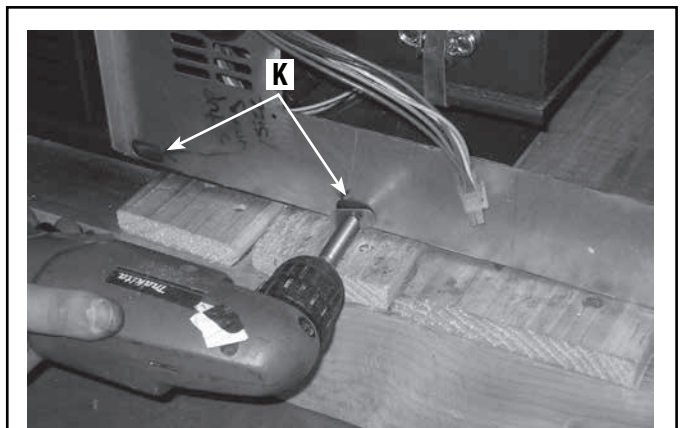

Figure 63
10. Final step: Install the 4 door washers (K), using 4 of the sheet metal screws provided, insert two on each lower side of your ZC box (shown in the **Figure 63**). You are now ready to install your PI40GL pellet insert. **Follow all vent clearances stated in your Installation and Operation Manual and the vent manufacturers instructions.**